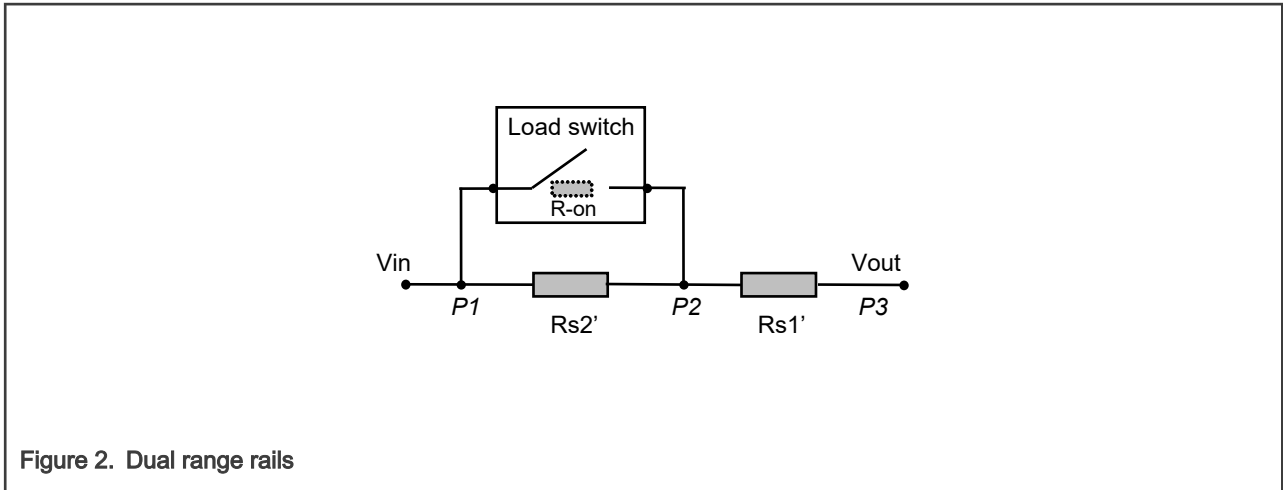

Figure 2. Dual range rails
2. For the most dual range rails, the $Rs1=Rs1'$ when the load switch is closed, since the sampling point for high measurement range is P2 and P3, except for VDD_PLL_ANA_1V8 and NVCC_SNVS_1V8 that use P1 and P3, and $Rs1=Rs1'+Ron$, see Figure 2.